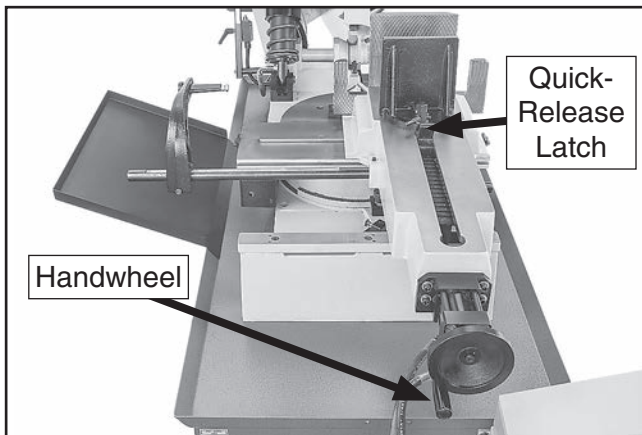

Figure 45. Quick-release latch location.
2. Rotate vise handwheel (see **Figure 45**) counterclockwise $\frac{1}{2}$ -turn to relieve any pressure on vise jaw.
3. Flip quick-release latch (see **Figure 45**) up to disengage it from vise leadscrew.